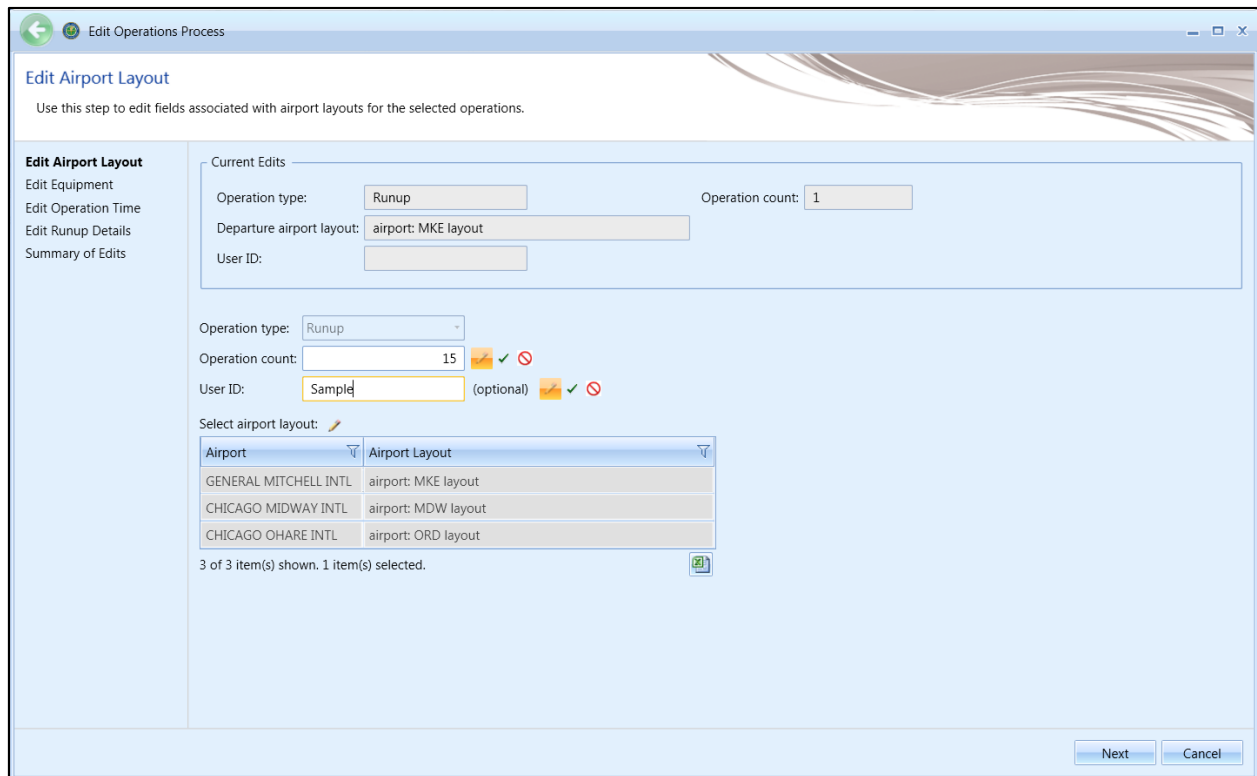

Figure 6-43 Bulk Runup Operations Edit
3. In the *Runup Actions* ribbon group, click *Edit* to open the *Edit Runup Operations wizard* (Figure 6-43).